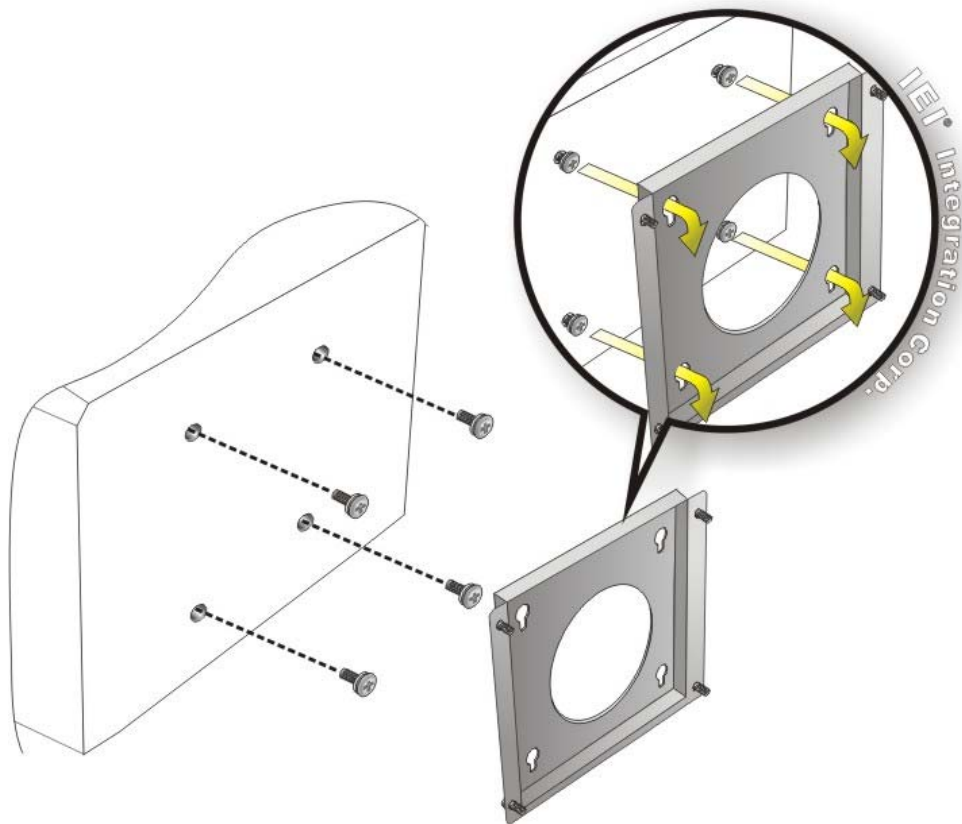

Figure 3-18: Mount the Embedded System
- Step 6:** Insert the four monitor mounting screws provided in the wall mounting kit into the four screw holes on the bottom panel of the system and tighten until the screw shank is secured against the bottom panel (**Figure 3-18**).
Step 8: Carefully insert the screws through the holes and gently pull the monitor downwards until the ECW-281B-D2550 rests securely in the slotted holes (Figure 3-18). Ensure that all four of the mounting screws fit snugly into their respective slotted holes.